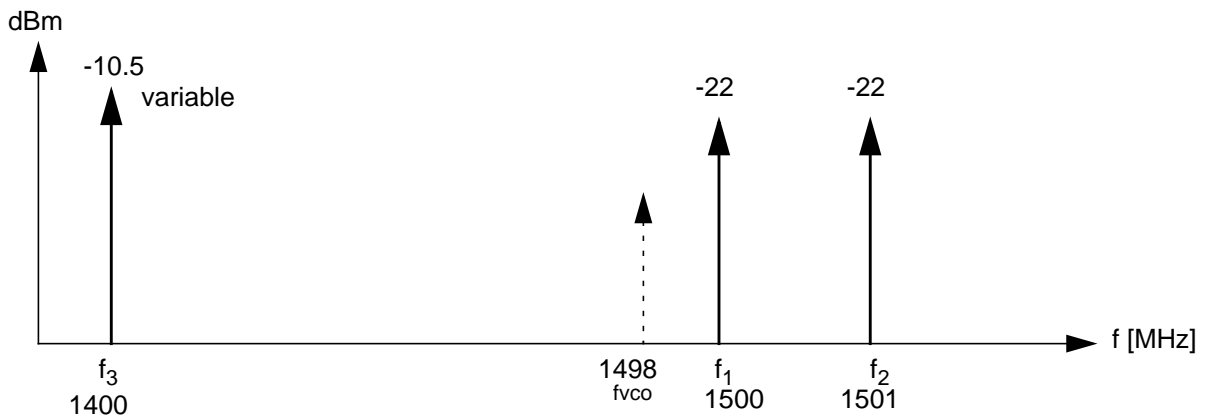

Fig.2 RF spectrum
- On RF, the spectrum looks like figure 2.